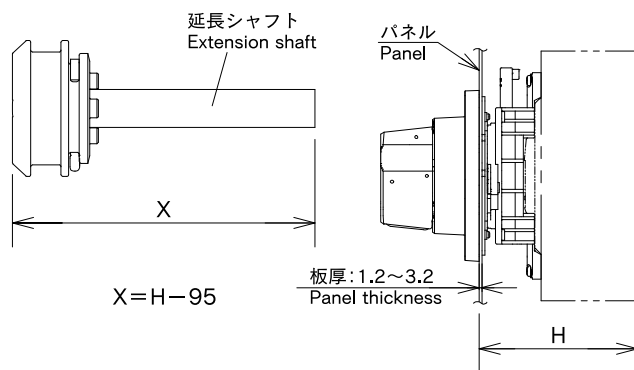

図6 Fig.6
2. 奥行寸法の調整 (図6, 表2)
2. Adjustment of the depth (Fig. 6 and Table 2)